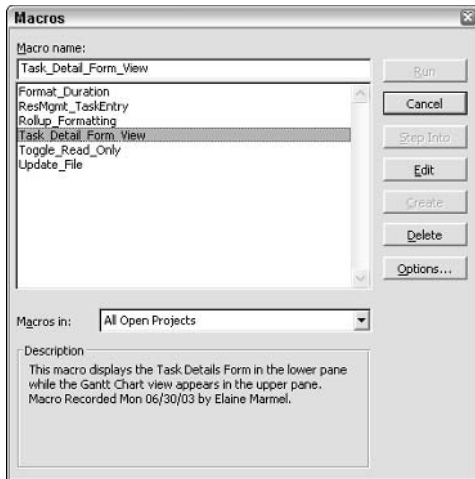

Figure 24-5: The Macros dialog box.
2. Choose Tools⇨Macro⇨Macros to open the Macros dialog box, as shown in Figure 24-5.